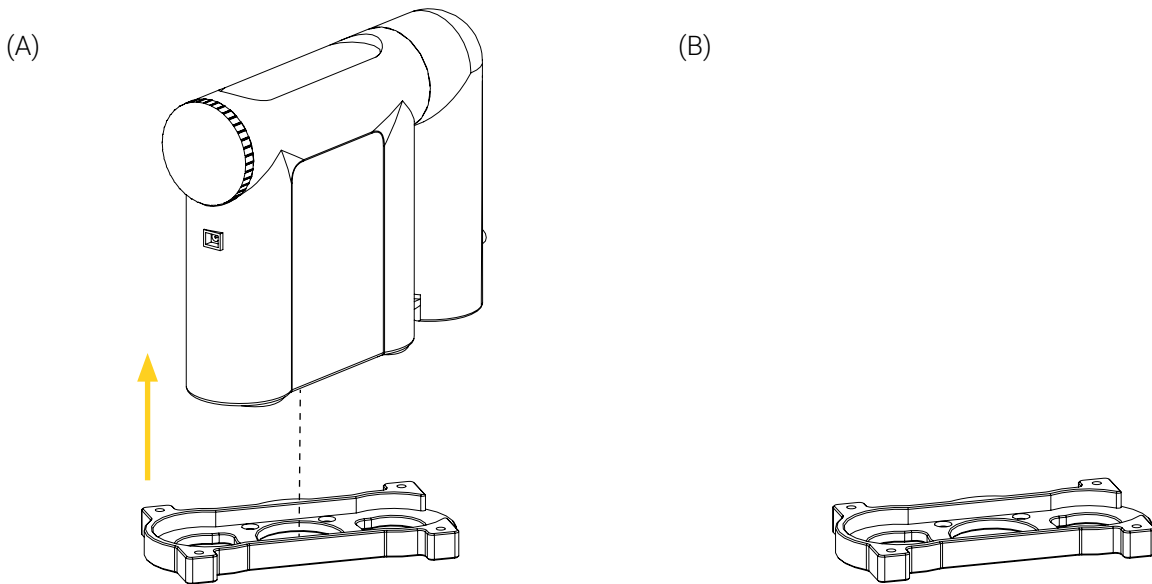
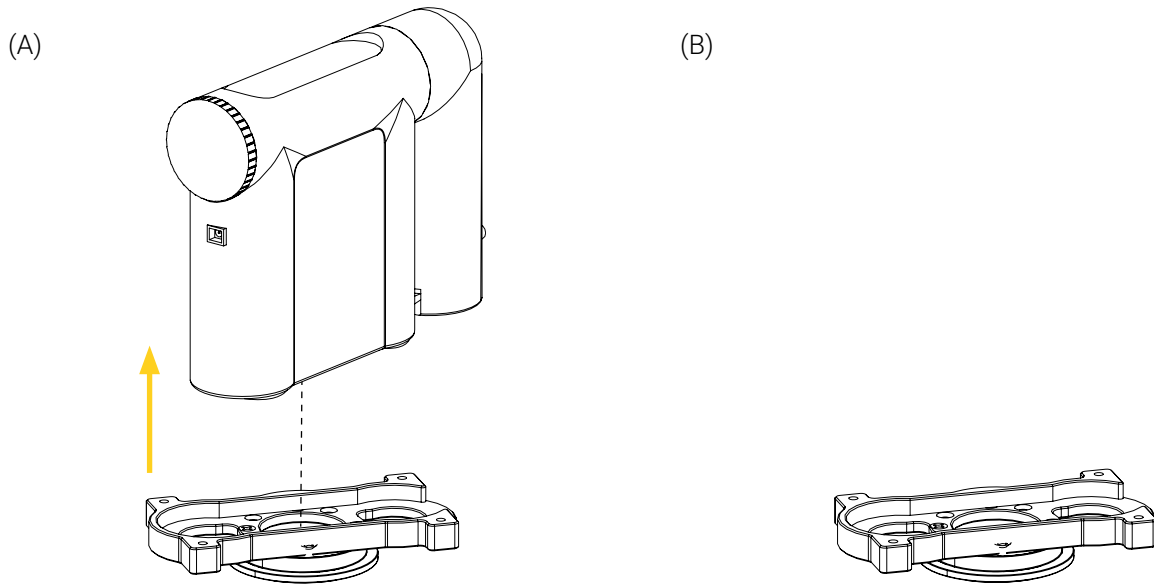

Figure 21: Removal of the medical device in the bottom plate
Figure 22: Removal of the medical device in the Bottom plate with a micro disc
2. Lift and remove the medical device vertically from the bottom plate (Figure 21 and Figure 22), then set it aside.